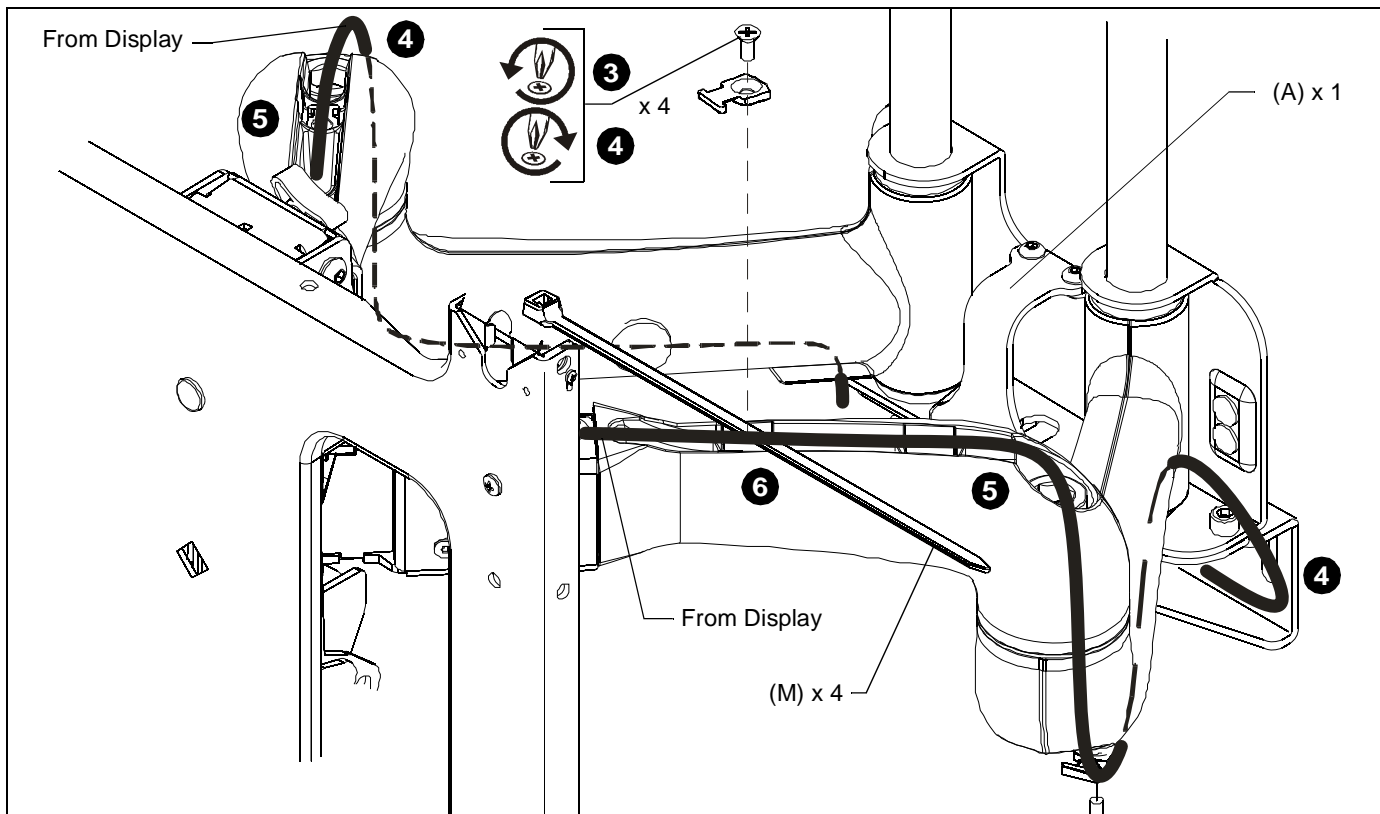

Figure 6
(See Figure 6)
4. Thread cable ties (M) under cable clamps and secure clamps to top arm. (See Figure 6)
5. Route power/audio/video cables through the cable channel in top arm (See Figure 6), allowing sufficient slack in cables for left/right movement of display and swing arm and also swing arm extension and retraction.
6. Secure cables to top arm using two cable ties (M).